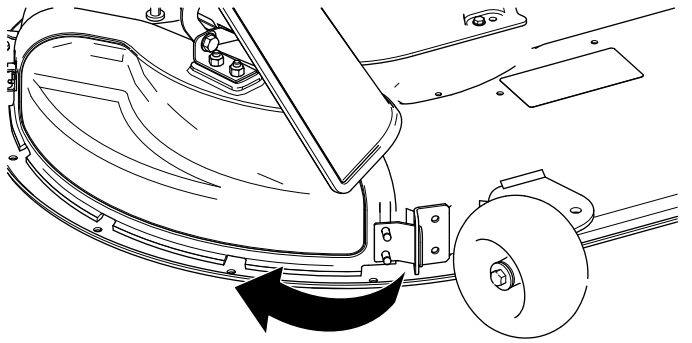

**Figure 2**
2. Angle the metal tab on the discharge cover into the slot in the bracket welded to the mower deck (Figure 2).